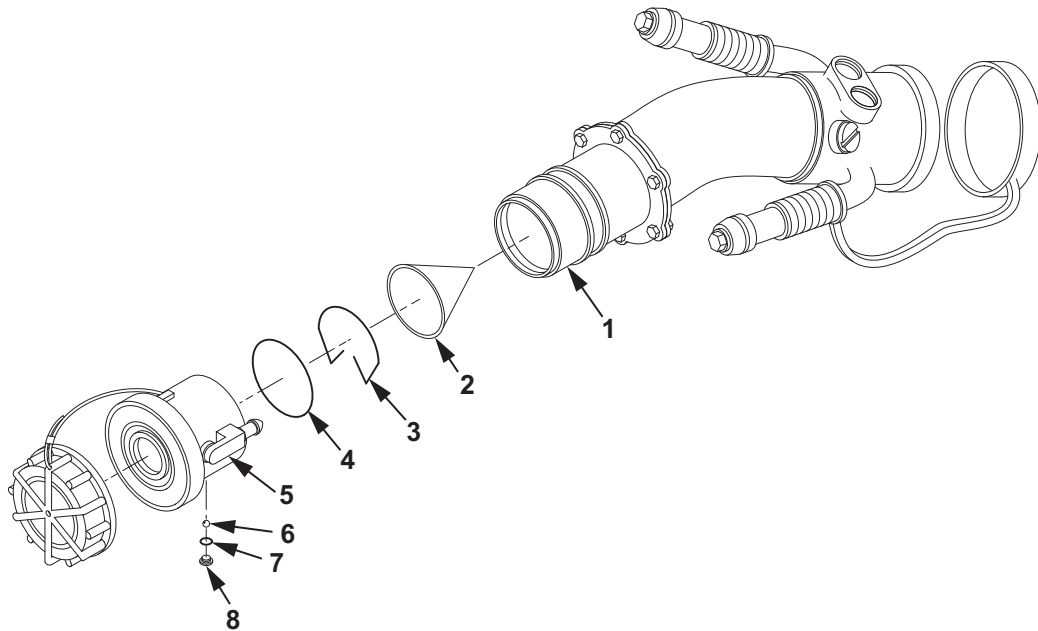

Figure 1. D1 Nozzle Strainer Maintenance.
1. Install strainer (Figure 1, Item 2) in male adapter (Figure 1, Item 1).
2. Using snap ring pliers, install snap ring (Figure 1, Item 3) in male adapter (Figure 1, Item 1).
3. Lightly lubricate new O-ring (Figure 1, Item 4) with petrolatum and install O-ring (Figure 1, Item 4) in coupling (Figure 1, Item 5).
4. Install coupling (Figure 1, Item 5) on male adapter (Figure 1, Item 1).
Ensure all 41 ball bearings (Figure 1, Item 6) are accounted for before assembly.
5. Hold coupling (Figure 1, Item 5) over cleaning cloth with screw hole up and insert ball bearings (Figure 1, Item 6) into hole.
6. Lightly lubricate new O-ring (Figure 1, Item 7) with petrolatum and install O-ring (Figure 1, Item 7) on screw (Figure 1, Item 8).
7. Install screw (Figure 1, Item 8) into coupling (Figure 1, Item 5).
8. Using torque wrench and screwdriver bit, torque screw (Figure 1, Item 8) to 25 in. lb (2.8 N·m).